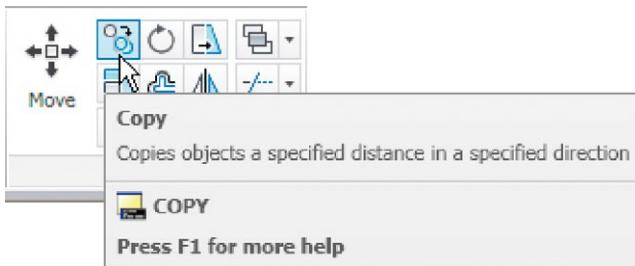

Fig. 5.4 The **Copy** tool from the **Home/Modify** panel
2. Call the **Copy** tool – either *left-click* on its tool icon in the **Home/Modify** panel (Fig. 5.4) or *enter cp* or **copy** at the command line. The command line shows: